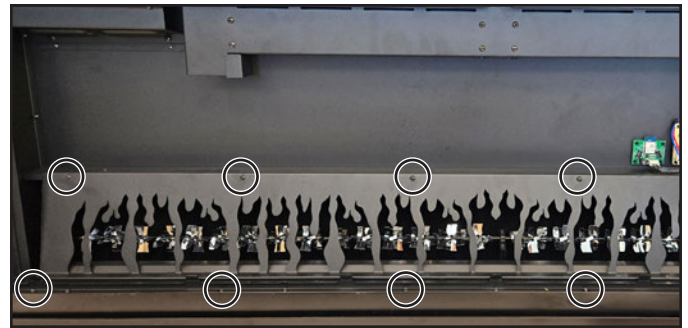

Figure 18 Remove Flame Silhouette Bracket Screws
4. Remove ST4x8 screws used to attach the flame silhouette bracket to the appliance. See Figure 18.